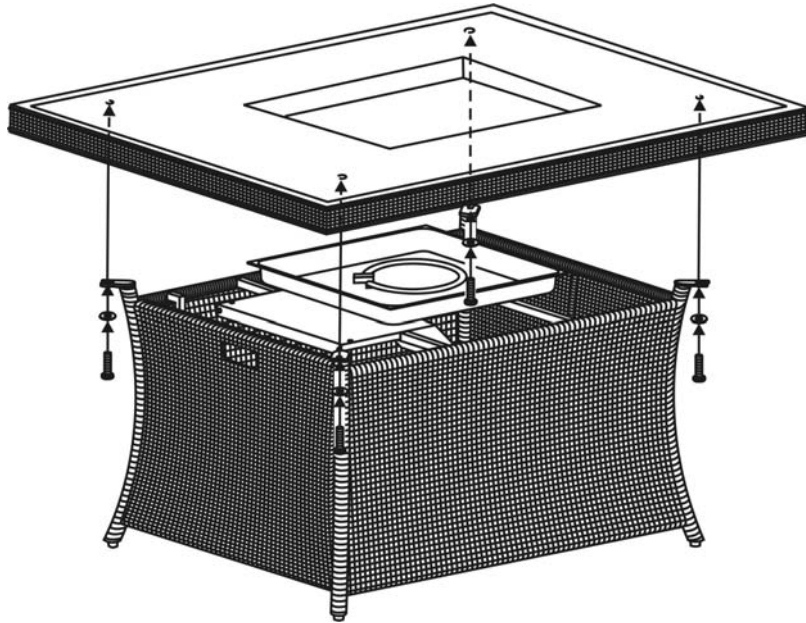

Figure 3
1. With the help of another person, turn the table base assembly in the upright position. Carefully place the table top (not included) onto the table base. After making any necessary adjustments to the alignment of the table top and firepit base, use bolts and washers as shown in Figure 3. Guide the bolts through the holes in the base brackets, into the pre-drilled holes in the table top. Do not tighten completely. Repeat on other three sides. (Note: holes do not go through to the top of the table. Holes shown for illustration purposes only.)